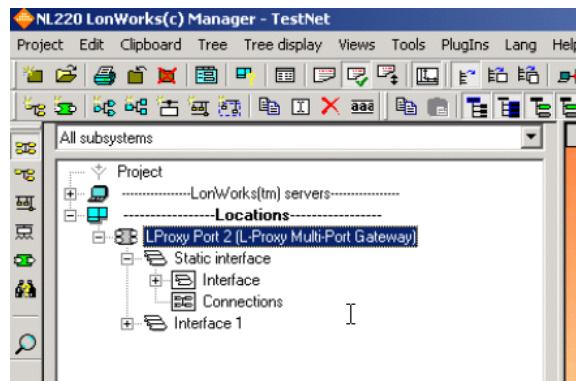

Figure 77: Interfaces of the L-Proxy device in tree.
4. The virtual interface must now appear in the L-Proxy device in the tree (see Figure 77).